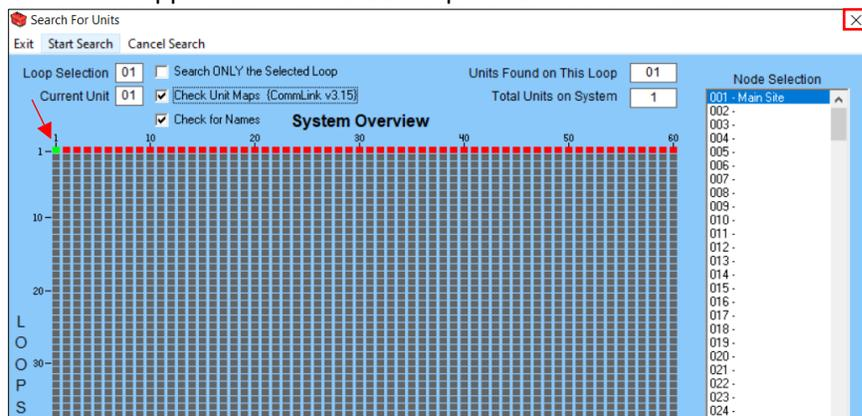

Figure 30: Confirming Unit Connection
- Now that you have started the search, the first 1 by 1 square in the top left of the grid should display a small green box (see figure 30). If you do not have the green 1 by 1 square, cancel the search by hitting the X in the top right and call Flō Tech Support at 888-598-1198 option 1 for further assistance.